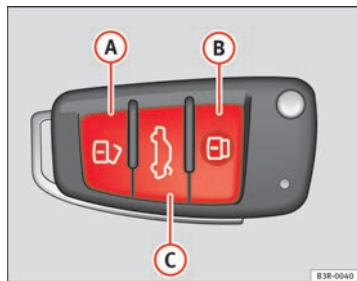

Fig. 77 Remote control key: Control buttons
- Press button  $\Rightarrow$ fig. 77 for about 1 second.